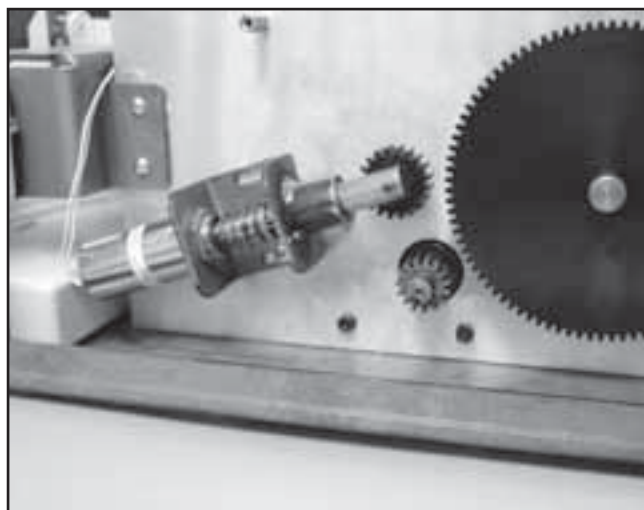

FIGURE 6.55
3. Loosen the Solenoid Mounting Screws enough to rotate Solenoid Gear up and off of the Motor Gear. See Figure 6.55.